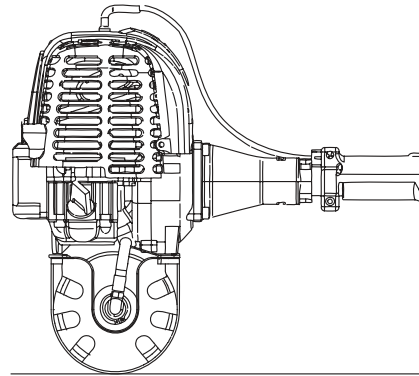

Fig. 6
2. Place the unit on a level surface (fig.6).